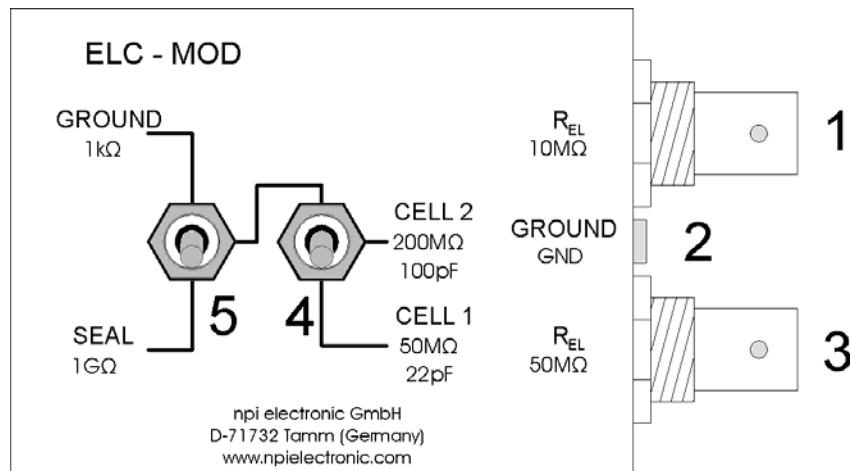

Figure 3: passive cell model
- Set switch #4, Figure 3 to the upper position.
- Set switch #5, Figure 3 to GROUND position. The $1\text{ k}\Omega$ resistor simulates the resistance of the bath solution. This can be used to train cancellation of offsets, using the bridge balance and using the capacity compensation.
- Set switch #5, Figure 3 to SEAL position. The $1\text{ G}\Omega$ resistor simulates the SEAL resistance when forming a GIGASEAL in patch clamp experiments.
Intracellular recordings can be mimicked with one of two cells with different properties. Use the $50\text{ M}\Omega$ electrode connector (#3, Figure 3) for an experiment with sharp electrodes or the $10\text{ M}\Omega$ electrode connector (#1, Figure 3) for simulating an experiment with patch electrodes.
- Switch the CELL membrane switch (see #4, Figure 3) to the desired position (CELL 1 or CELL 2).